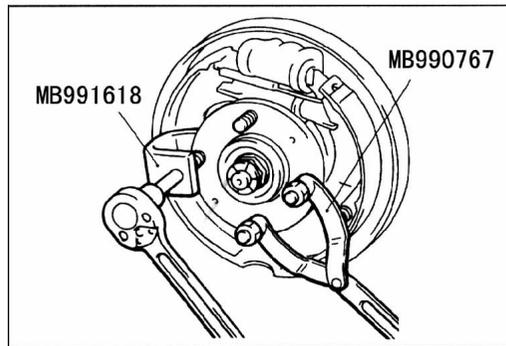

Fig.13-3
- (1) remove the brake drum.
- (2) use the special tools to remove the hub bolts. (see Fig.13-3).